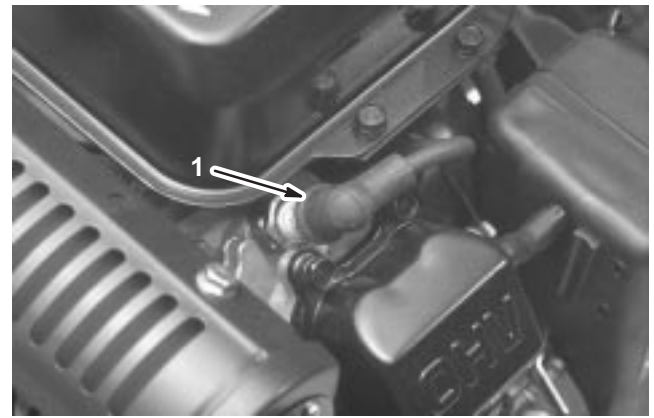

Figure 32
2. Clean around the spark plug and remove it from the cylinder head (Fig. 32)